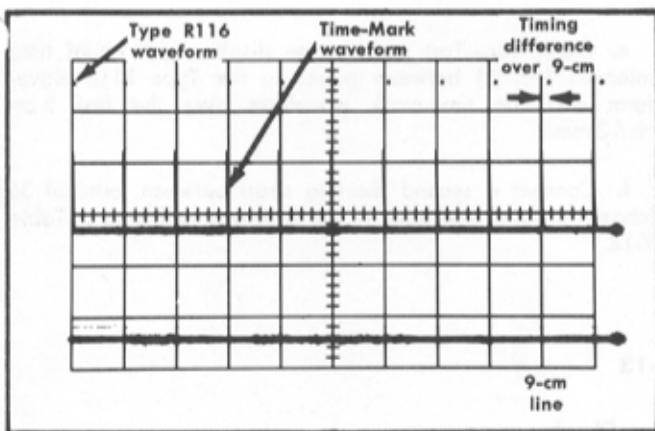

Fig. 7-37. Typical test oscilloscope display for checking period timing.
- f. Check for — Test oscilloscope display with equal time interval between the pulses in the Type R116 waveform and those in the reference time-mark signal, ± 2.7 mm over the first 9 cm of the test oscilloscope graticule (10 ms $\pm 3\%$). See Fig. 7-37 for the display.